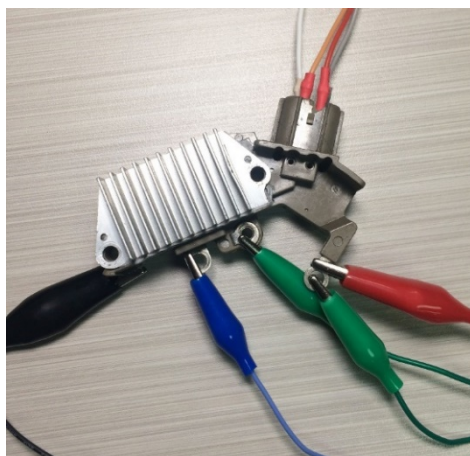

Figure 14. Voltage regulator ARE6076 connected to the tester terminals
Based on the terminals in the connector and the information in Appendices 1 and 2, we determine the type of regulator. In this case, the terminals IG, S, and FR(M) do not identify the type of regulator. The terminal L identifies this regulator as L/D+ (Lamp). Again, referring to Appendix 1, we determine which diagnostic cable clamps (connectors) need to be connected to the regulator. The connection diagram for the ARE6076 regulator to the tester is provided in Table 2 and Figure 14.
When connecting the ARE6076 regulator, there is one particularity. Figure 14 shows only one terminal F, to which we connect the green wire (F1). The second green wire (F2) needs to be connected to the B+ terminal. This is because one of the relay brushes is constantly connected to B+, and the excitation winding is controlled through the brush connected to the alternator's "minus" (A-circuit type).